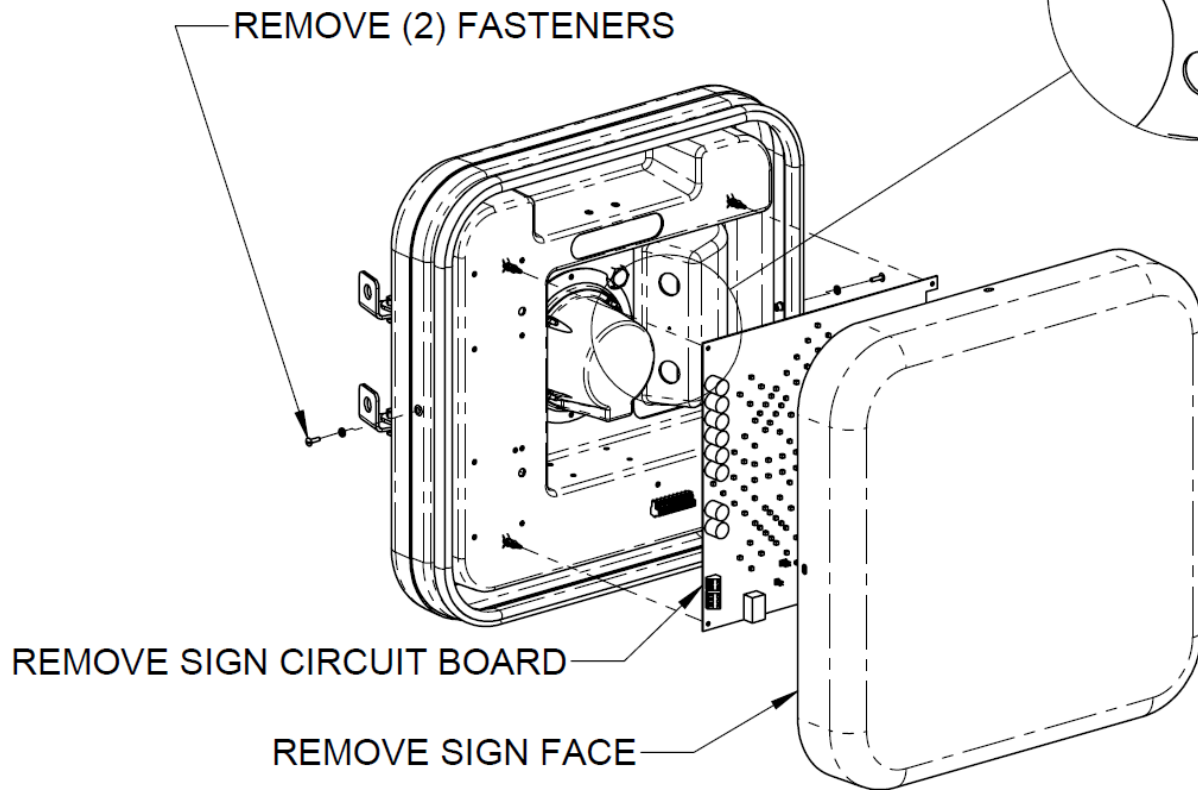
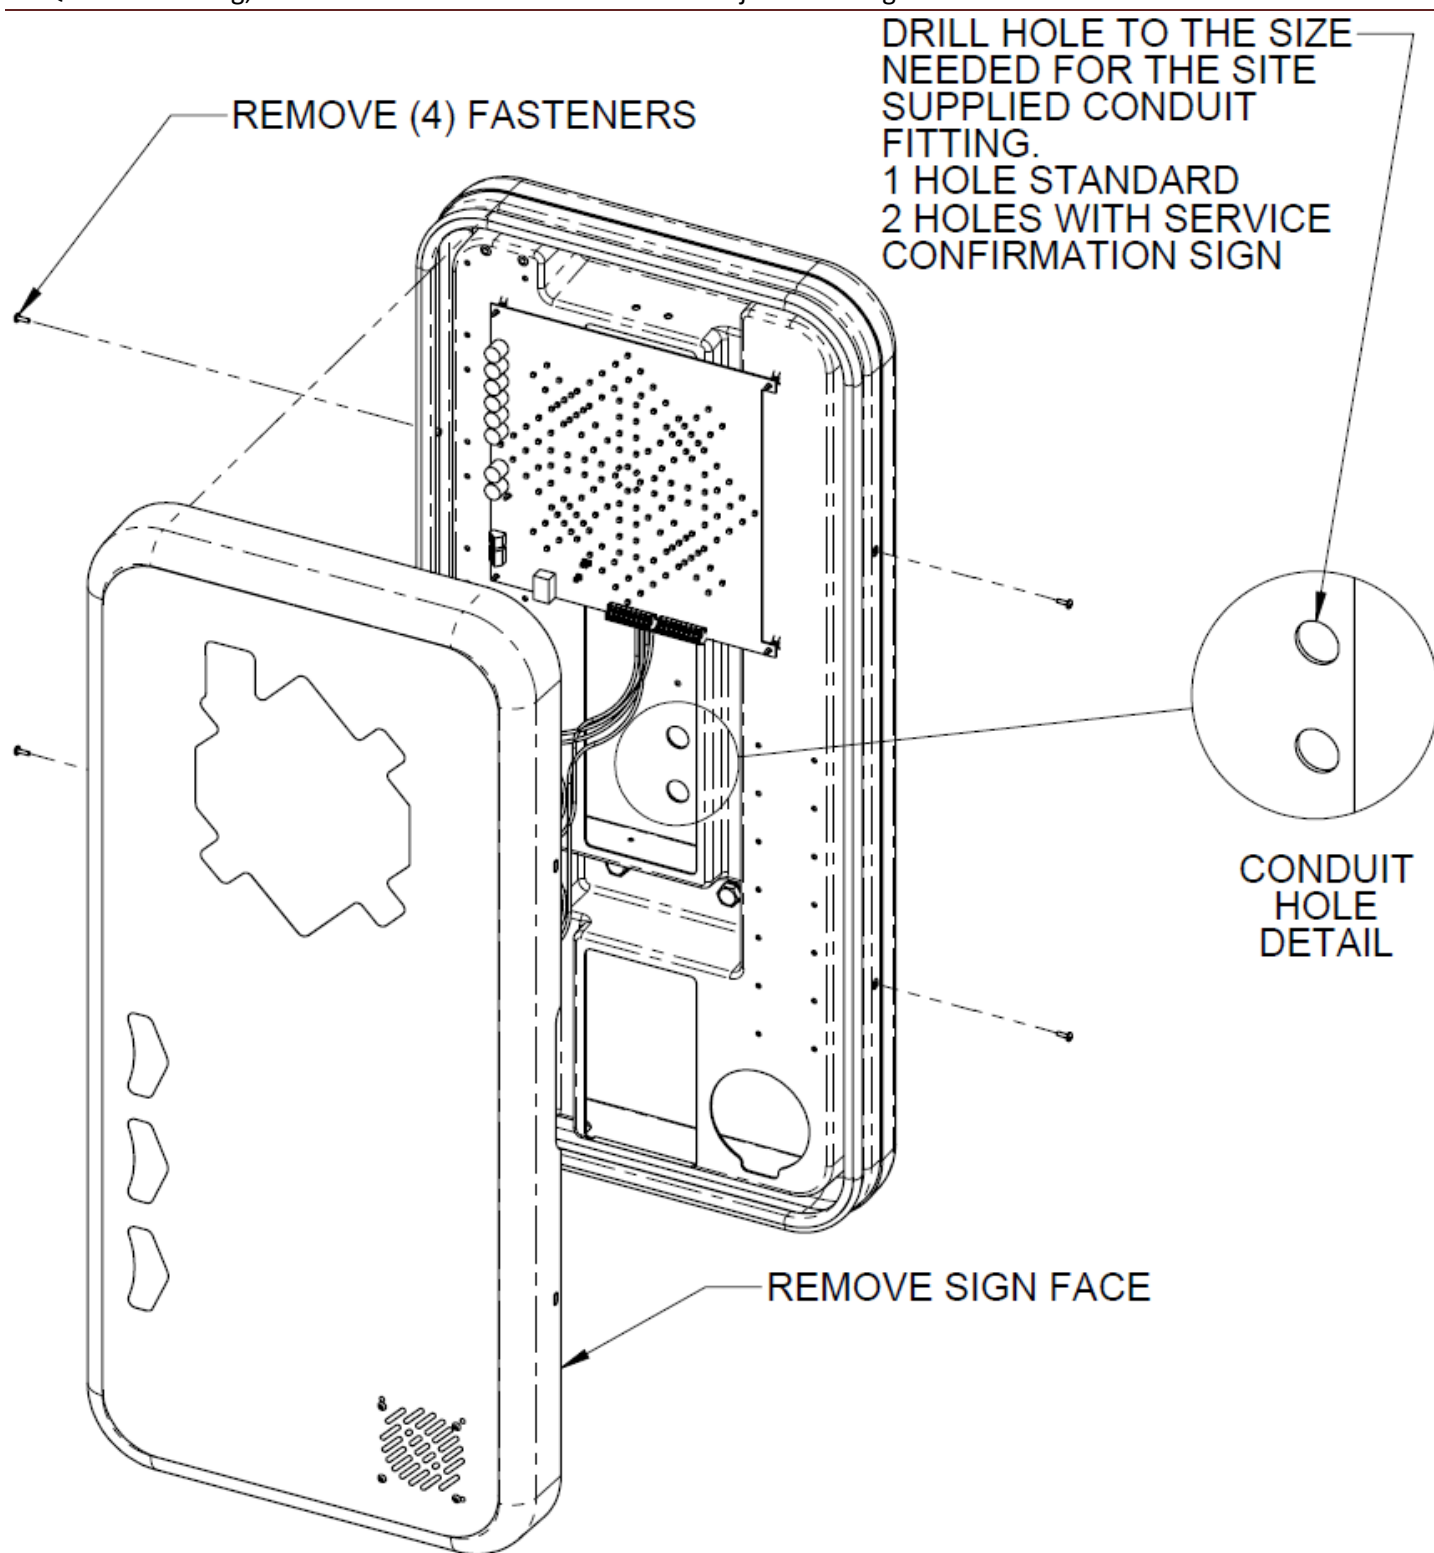

Figure 176 – Basic In-Bay Sign Preparation for Installation
Figure 177 - Deluxe In-Bay Sign Preparation for Installation
- Remove the sign circuit board from the stand-off fasteners for the Basic In-Bay Sign only. Take care to not damage the circuit board or its fasteners. See Figure 176 for the Basic In-Bay Sign and Figure 177 for the Deluxe In-Bay Sign.
- The back cover of the sign enclosure has center marks to aid in the drilling process. Drill one or two holes to the size needed for the site supplied conduit connector. Caution must be taken not to damage the audio speaker. See the detail views in Figure 176 and Figure 177.